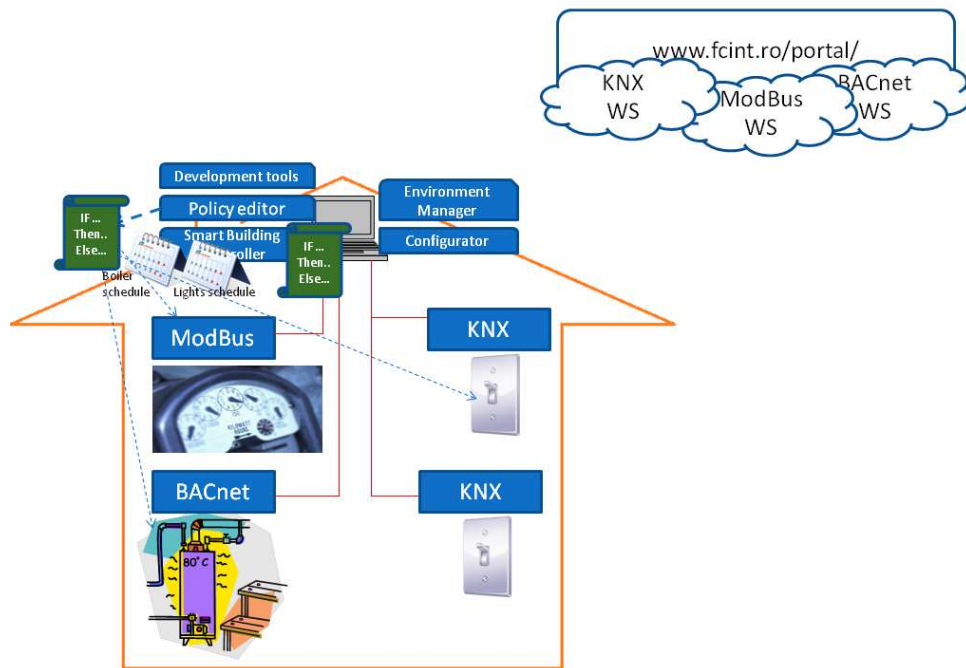

Figure 6. Create policies
- The user defines a number of policies for individual devices or for groups of devices. The policies are ready on the SBC for execution (figure 6)